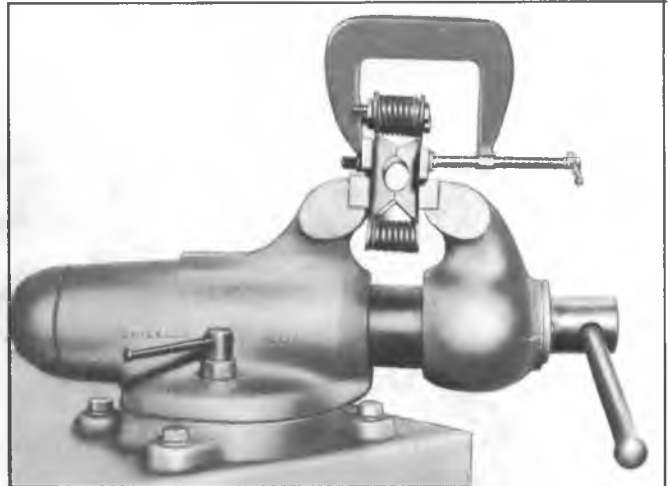

Fig. 7E--Removing Preload Springs from Pack
4. Position spring pack in vise and remove 1/4 inch bolts. Alternately relieve "C" clamp pressure and vise pressure until spring compression is relieved. See Figure 7E.